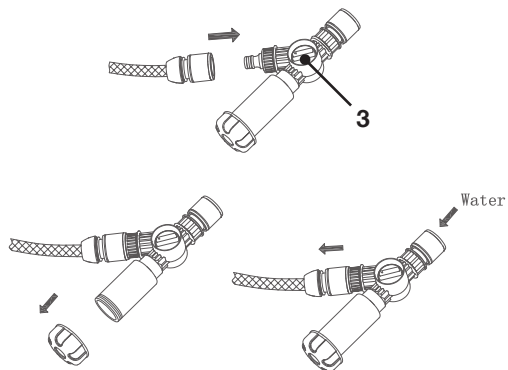

Fig. 4
### Connecting the soap dispenser (Fig. 4)
1. When not using the soap dispenser, connect the ball valve (4) to a universal garden hose coupling.
2. Open the water tap and slide the handle on the ball valve (Fig 4) to the left.